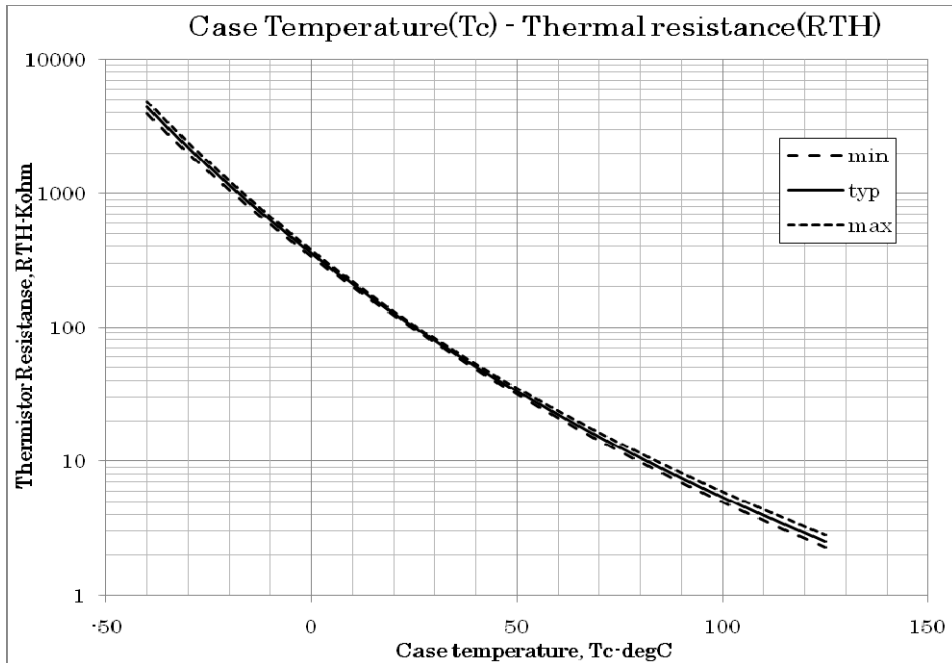
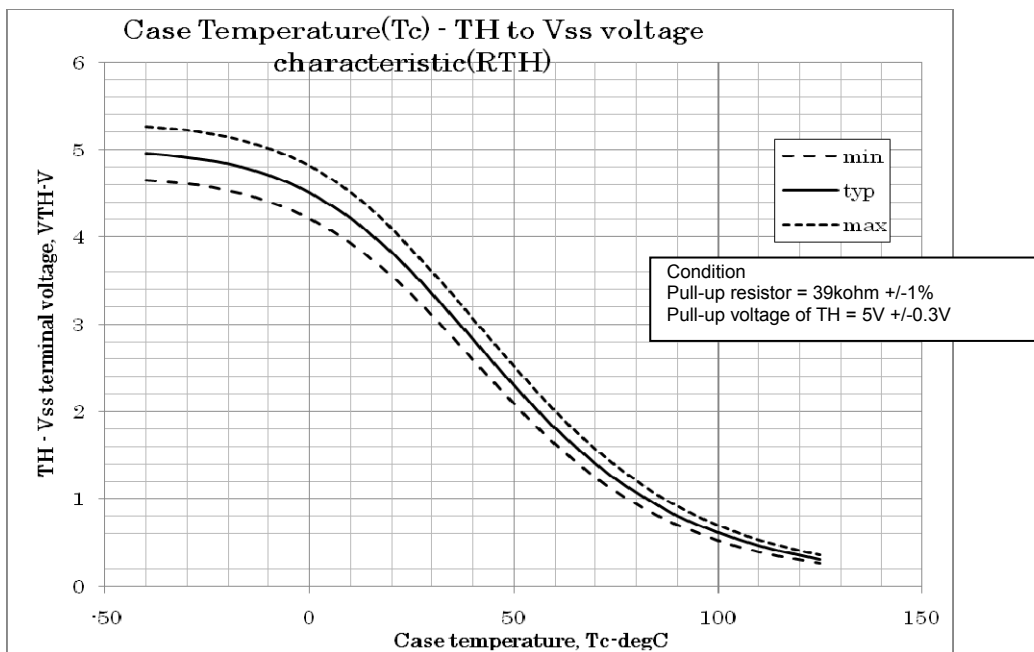

Fig.11 Variation of thermistor resistance with temperature
Fig.12 Variation of temperature sense voltage with thermistor temperature
4. Inside the IPM, a thermistor used as the temperature monitor for internal substrate is connected between "TH1" and "TH2". Generally, one of terminals is connected to VSS, and the other is pulled up to external power supply with pull-up resistor (Rp) externally. The temperature monitor example application is as follows please refer the Fig.11 and Fig.12 below.